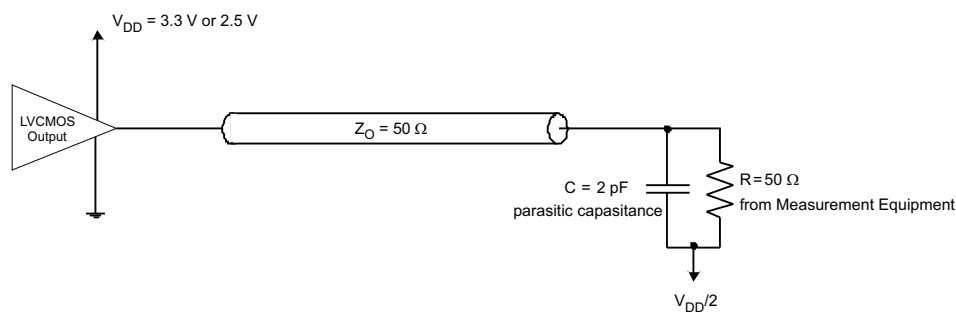

Figure 1. Test Load Circuit
(1) All typical values are at respective nominal V_{DD}. For switching characteristics, outputs are terminated to 50 Ω to V_{DD}/2 (see Figure 1).